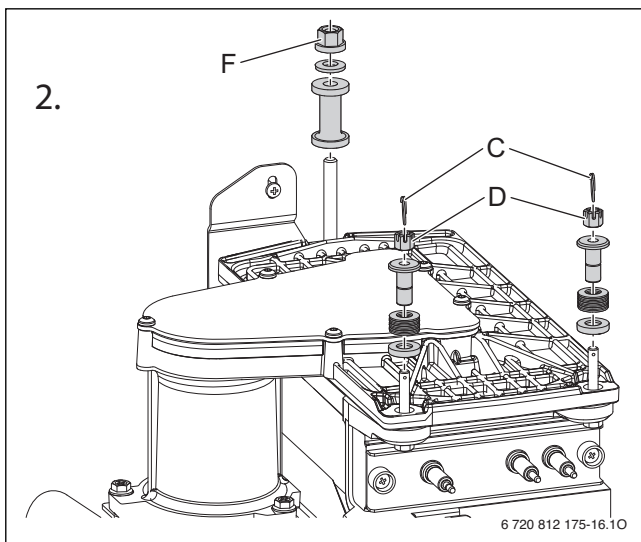

Fig. 64 Burner cover securing detail
- ▶ Re-assemble the burner in the reverse order using a new seal (K)
- ▶ Assemble the washer, spring, spacer and castellated nut (D), refer to figure 64, onto the screws securing the burner cover to the heat exchanger.
- ▶ Using a 10mm spanner, tighten the castellated nuts (D), securing the burner cover (G) to the heat exchanger, until the spacers "bottom out" on the heat exchanger body. The nut will stop turning at this point, do not overtighten.
- ▶ If necessary, back the nuts off slightly until the hole for the clip (C) is visible
- ▶ Insert the clips (C) and secure